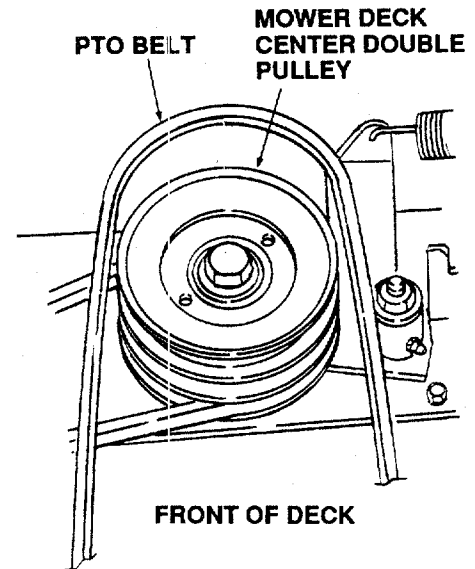
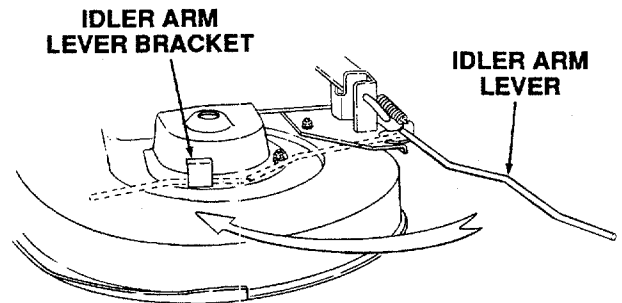

Figure 37
Figure 38
3. Remove the rearward end of the PTO belt from the upper pulley of the deck center double-pulley (Refer to Figure 37). Engage the deck idler arm lever back into its stop bracket (See to Figure 38).